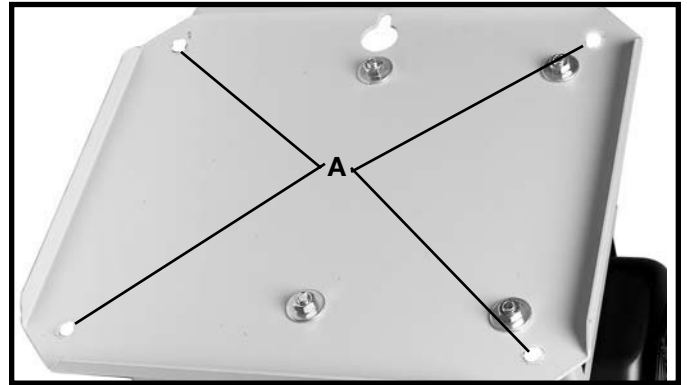

Fig. 3
3. Insert bolt on wheel caster through the four holes (A) Fig. 3 in the base of the dust collector.